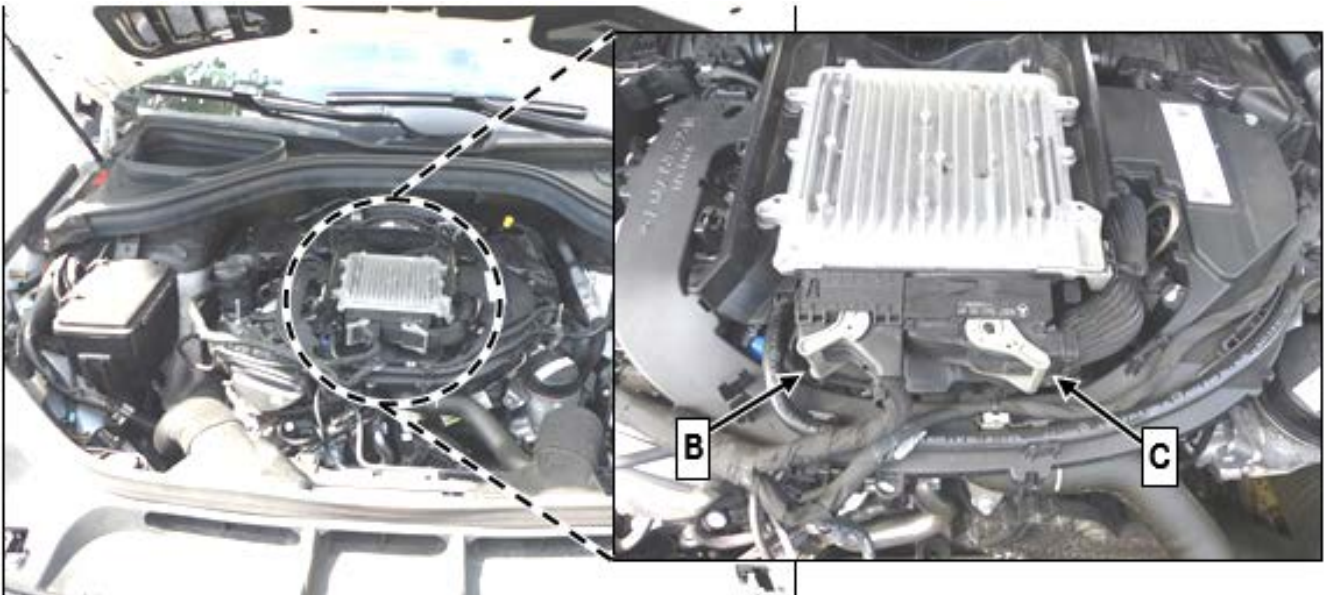

Figure 2 (shown with model 166)
3. Disconnect electrical connectors (B and C, figure 2) from engine control unit and reconnect them.